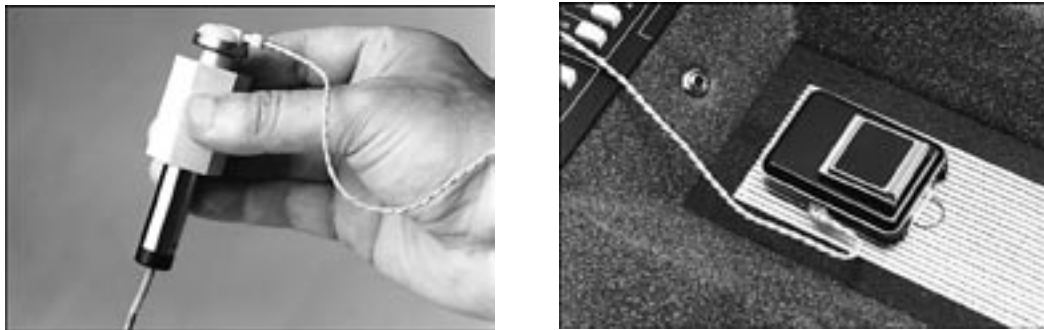

Figure 4.5—Body aid setup
3. Place the aid in the test chamber with its microphone opening as close to the reference point as possible (See Figure 4.5).